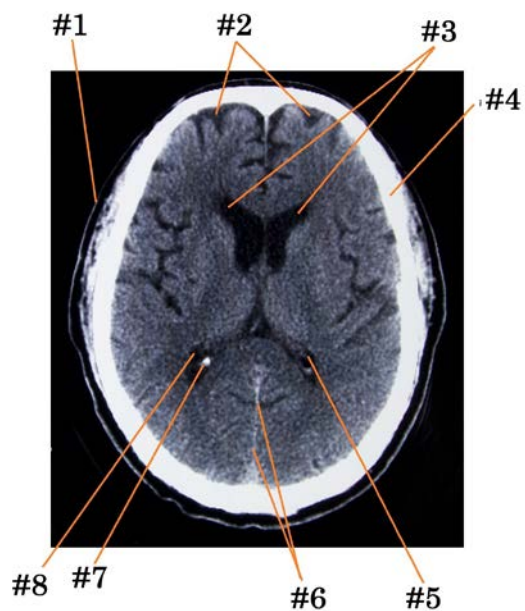

Figure 3-25. CT axial cross-sectional image of the middle brain.
4. Identify the middle brain cross-sectional anatomy displayed in figure 3-25.